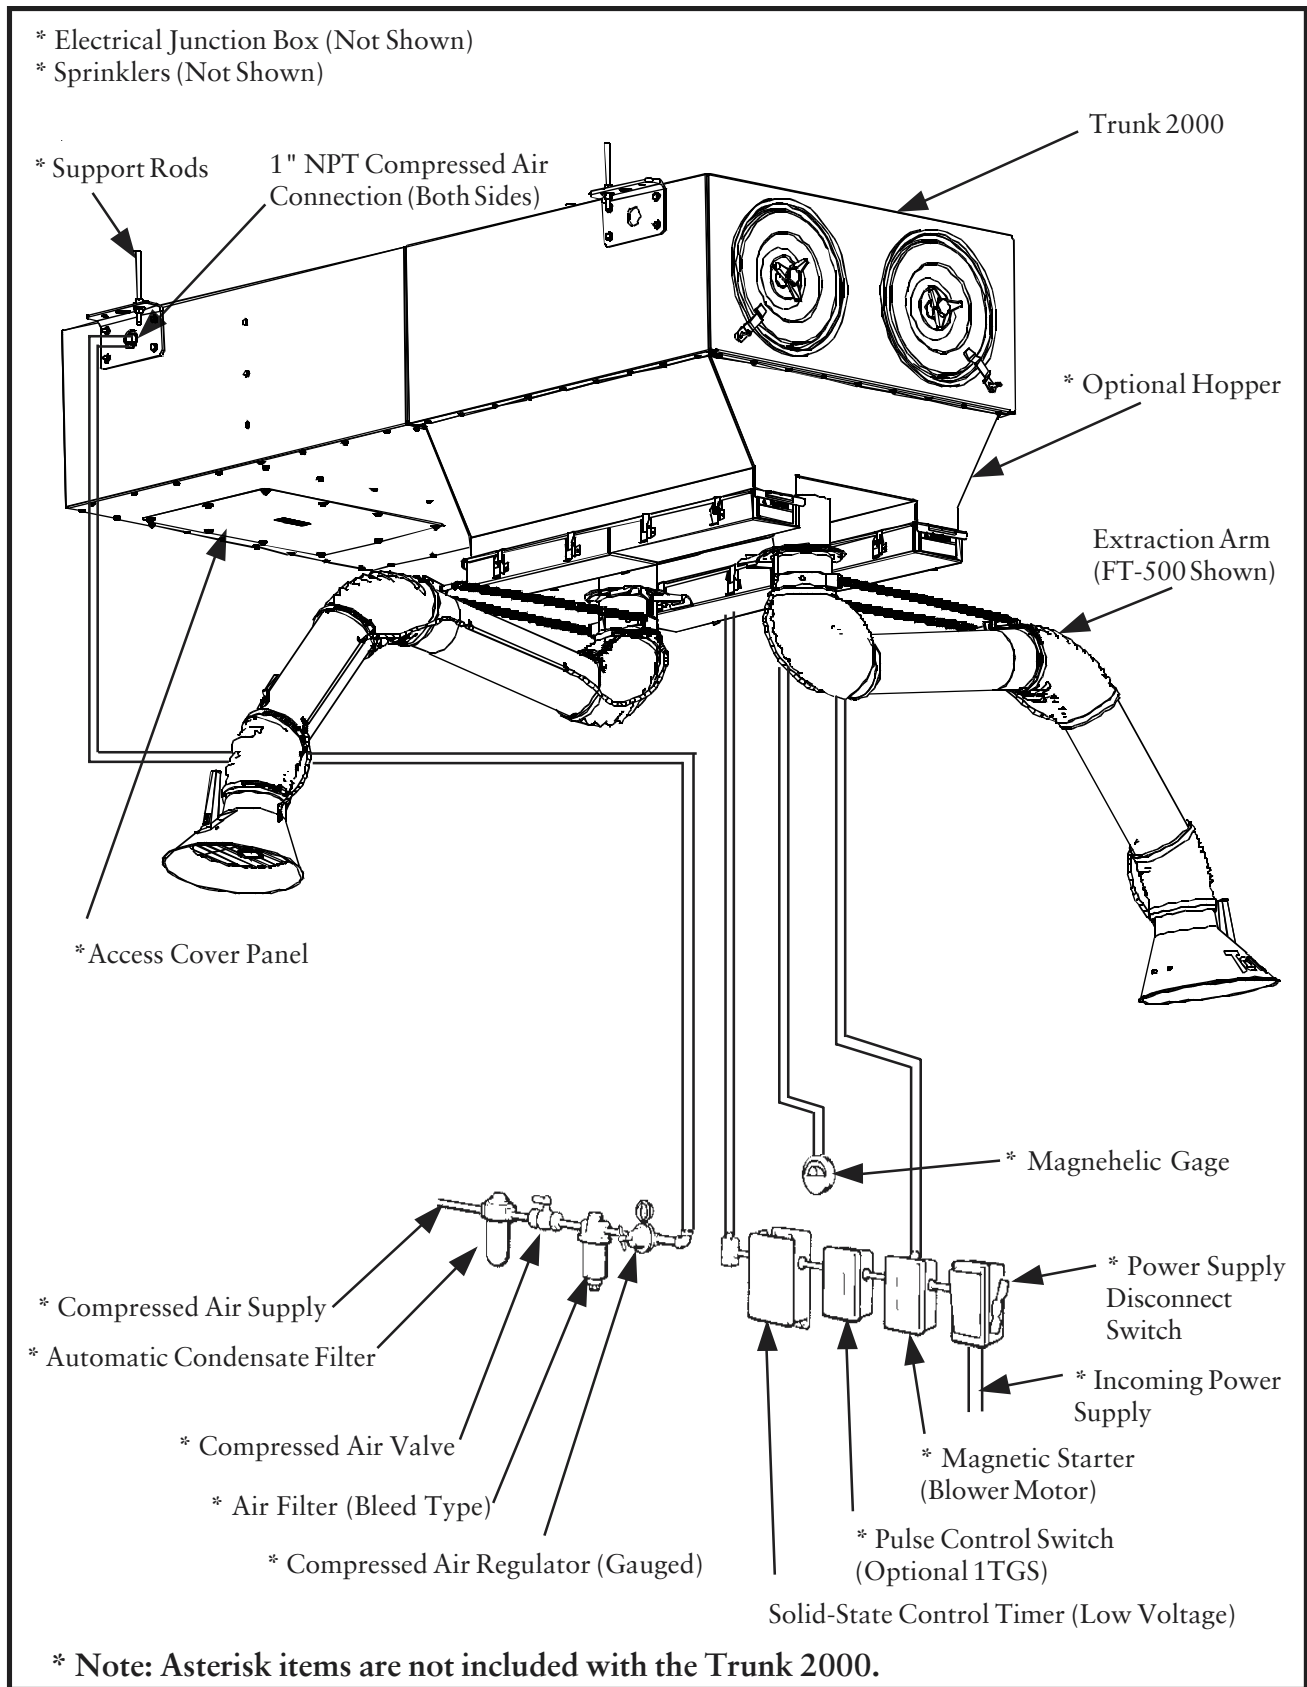

Figure 1
2.6.3 Photohelic Gage (See Figures 1, 7, and 8)